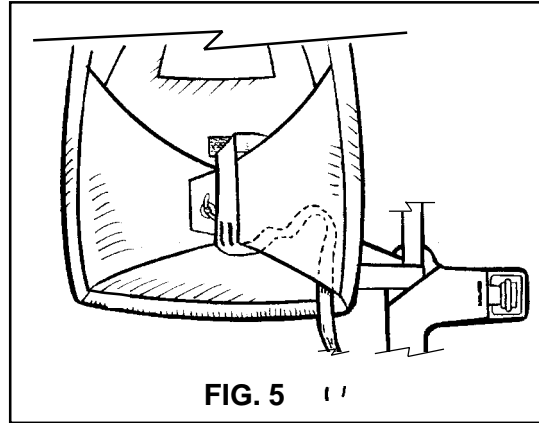

FIG. 5
3. Tuck about 12 inches of bridle under the right flap being sure to make it snag proof and secure (**FIG. 5**).